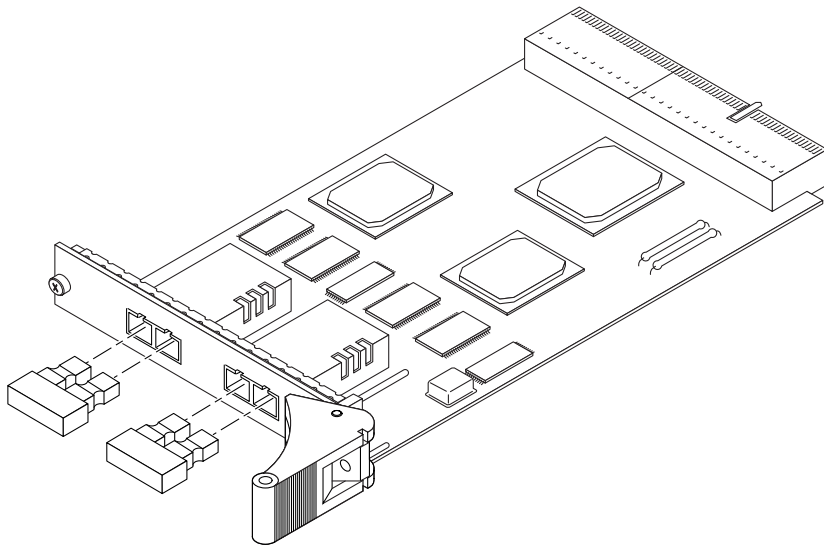

FIGURE 2-4 Sun cPCI Dual Fibre Channel Host Adapter Dust Covers
1. **Pull the two dust covers out of the 1x9 optical transceiver (OT) connectors** (FIGURE 2-4).